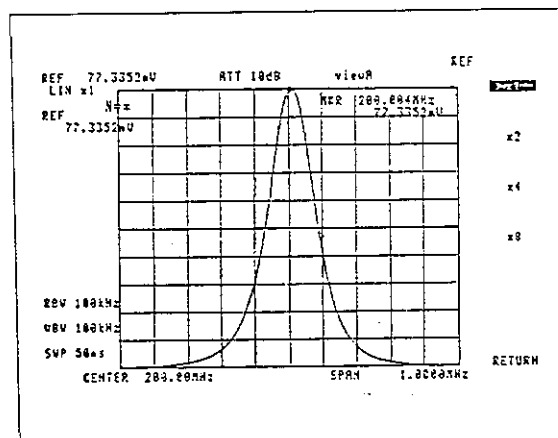

Figure 3-3 LINEAR Display for the Vertical Axis Scale
Sets the vertical axis scale in the LINEAR display mode, and displays the following softkey menu ④ . In the LINEAR mode, the CRT vertical axis scale is set to the one proportioned to the input voltage. The uppermost level is set as the reference level (see Figure 3-3).